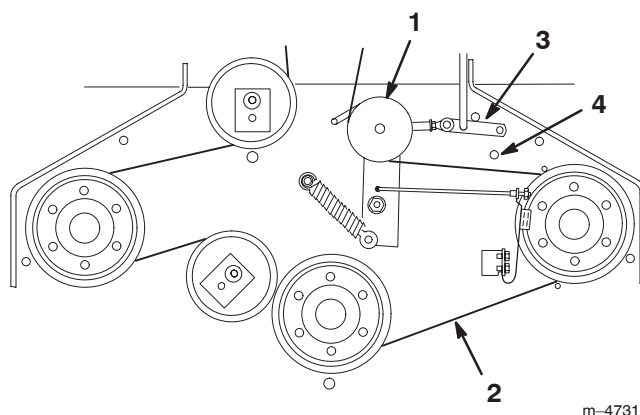

Figure 57
4. Remove the idler pulley and the worn belt (Fig. 57).
Note: Proper belt tension is 10–15 lbf. (44–67 N) with the belt deflected 1/2 inch (13 mm) halfway between the pulleys (Fig. 57).